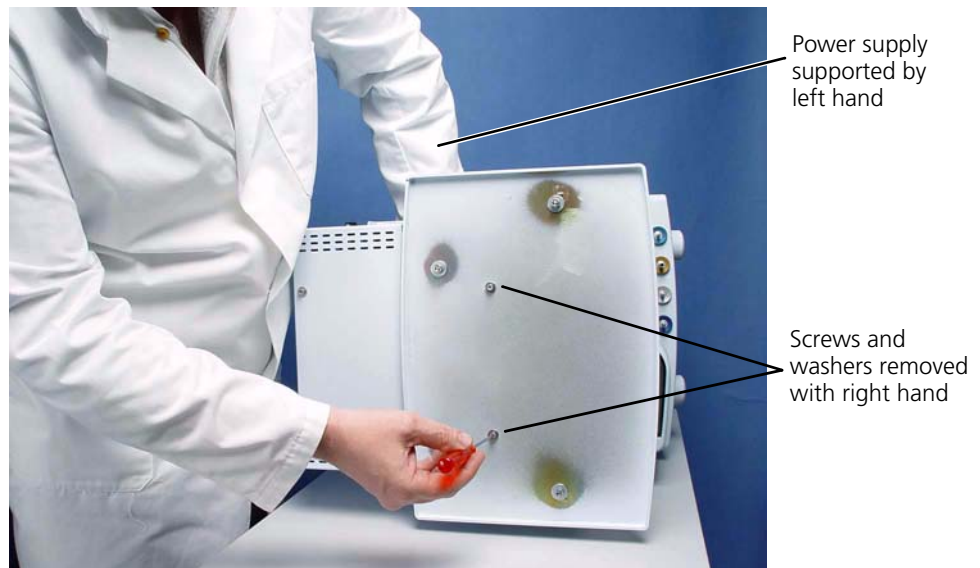

Figure 11-8. Removing the screws securing the power supply to the base
3. Supporting the power supply with one hand, remove the two hexagonal-drive (Allen) screws and washers that secure the power supply to the base of the shelf mount. (Figure 11-8.)